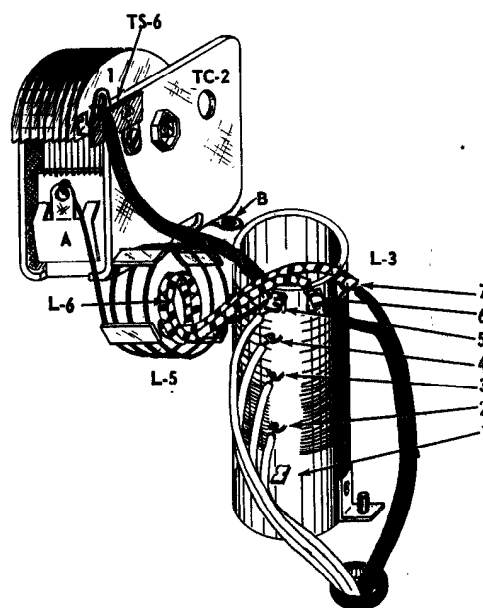

Figure 22.
- 169. Adjust the wiper tab, which is soldered to lug 1 of tie strip TS-6, to make slight contact with the outside rotor plate of tuning condenser TC-2. Properly adjusted, the tab will continue to make a wiping contact with the rotor plate of the tuning condenser as it is advanced in a clockwise direction from its present position. See Fig. 22. This constitutes the 6 meter tuning portion of the Final Plate tuning condenser.
- 171. Connect a short U shaped piece of #16 bus wire from pin 6 to pin 7 of the octal plug. (S). Trim the excess wire and solder from the plug pins and reinsert the plug into socket S0-6.